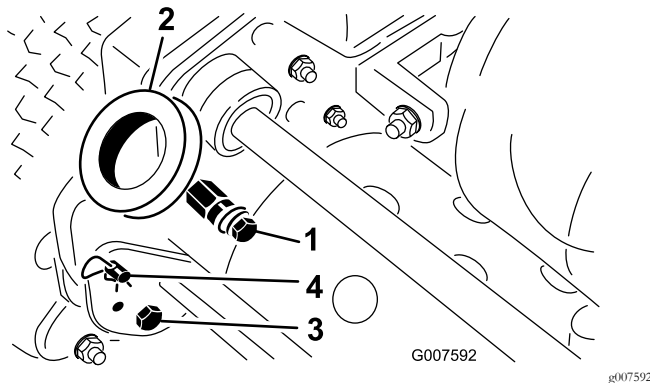

Figure 2
1. Remove the bolts, locknuts, and washers securing the bottom of the handle arms to each side of the machine (Figure 2).
2. Remove the hairpin cotters and the ring pins securing the handle arms to the rear of the frame (Figure 2).
3. Insert the handle ends through the holes in the handle arms and align the holes with the mounting pins (Figure 2).
1. Remove the hairpin cotters from the ring pins on each side of the machine (Figure 2).
2. While supporting the handle, remove the ring pins from each side and raise or lower the handle to the desired operating position (Figure 2).